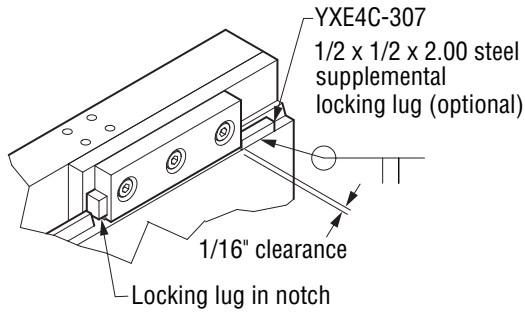

Figure 4-2, Locking Lug
6. Weld on the supplemental locking lug that is supplied with the attachment, (two pieces of 1/2" x 1/2" x 2.00" steel included with the attachment) with either E-6011 or E-6013 welding rod, or equivalent, on each side of the truck carriage. (Figure 4-2)